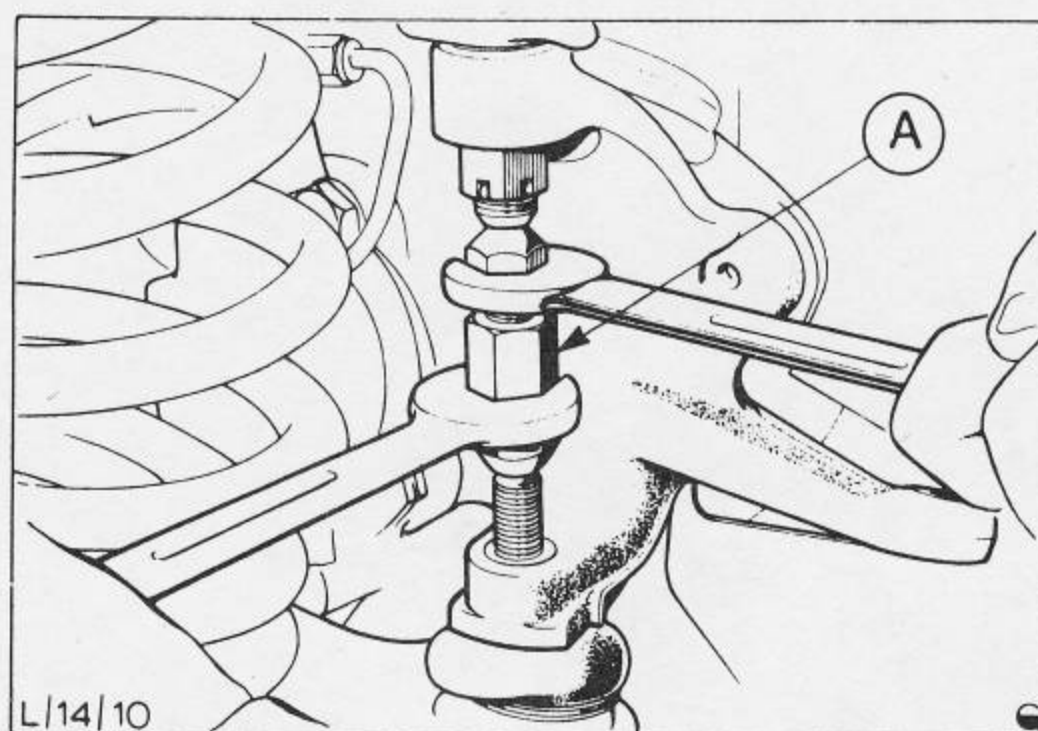

Fig. 31 Free ball joint tapers.
8. Withdraw split pin and remove nut securing lower arm ball joint. Using joint separator separate ball joint taper and disconnect lower arm from stub axle. Fig.31